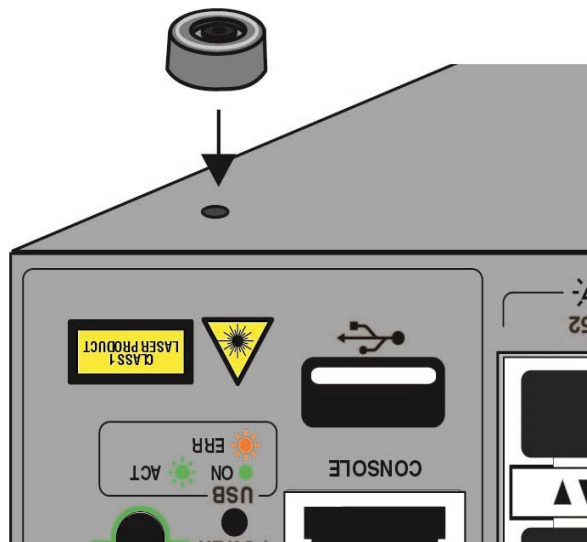

Figure 16. Place the Bumper Foot on a Base Corner Hole
- b. Place the bumper foot on one of the corner holes in the base of the switch. Refer to Figure 16.